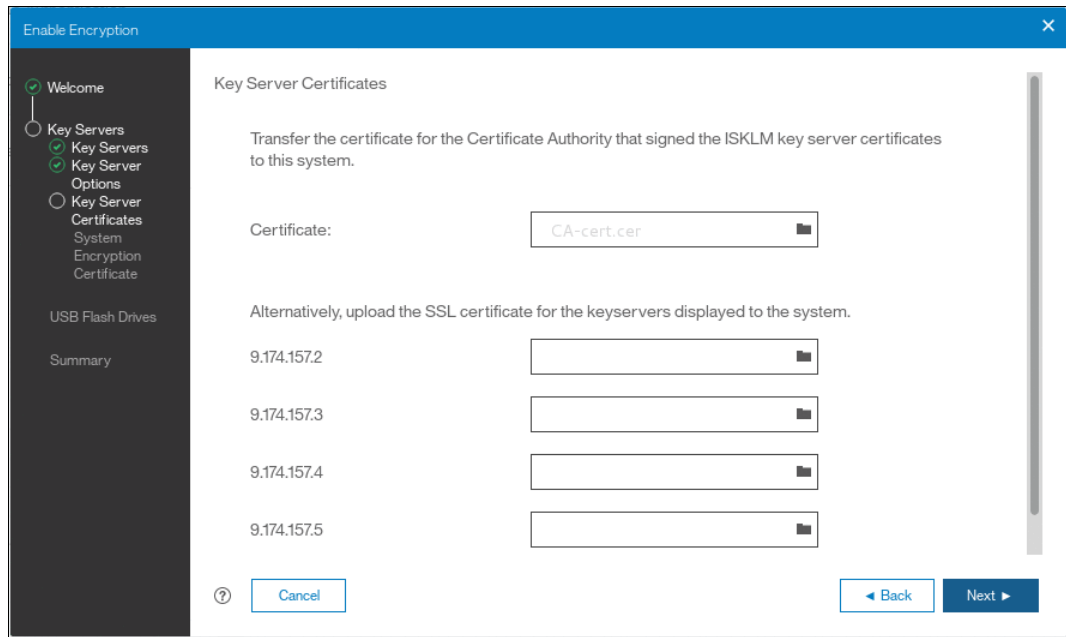

Figure 13-44 Uploading the key server or certification authority SSL certificate
- The next step is to enable secure communication between the Spectrum Virtualize system to and the SKLM key servers. This can be done by either uploading the public certificate of the certificate authority used to sign all the SKLM key server certificates, or by uploading the public SSL certificate of each key server directly. Figure 13-44 on page 736 shows the